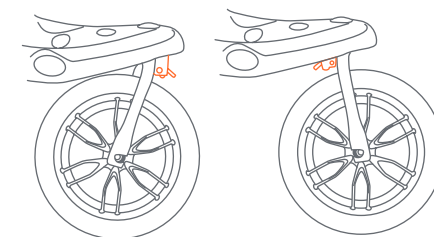

Fig. 12a
- 12) • The front wheel is equipped with a swivel locking device and can lock the wheel in the front or back position (Fig. 12a).